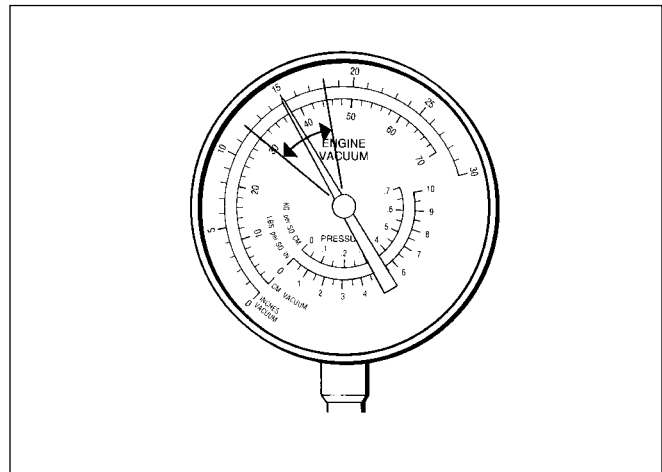

Fig. 1-8. Vacuum leak in the intake system. Needle fluctuating, low reading.
- A reading with the gauge needle fluctuating 3 to 9 inches below normal indicates a vacuum leak in the intake system, figure 1-8